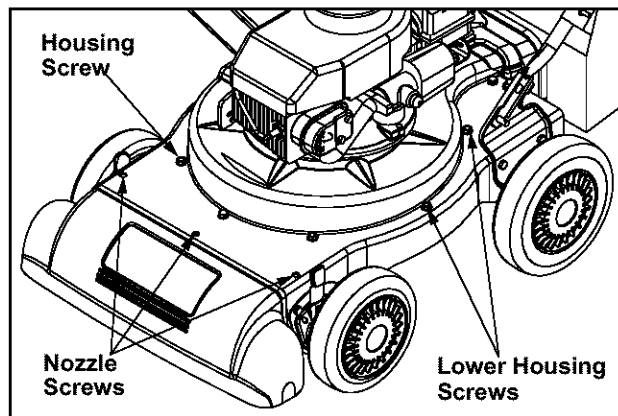

Figure 15
- Remove the three screws on the upper housing that secure the nozzle cover and the nine screws that secure the lower housing to the upper housing. See Figure 15.